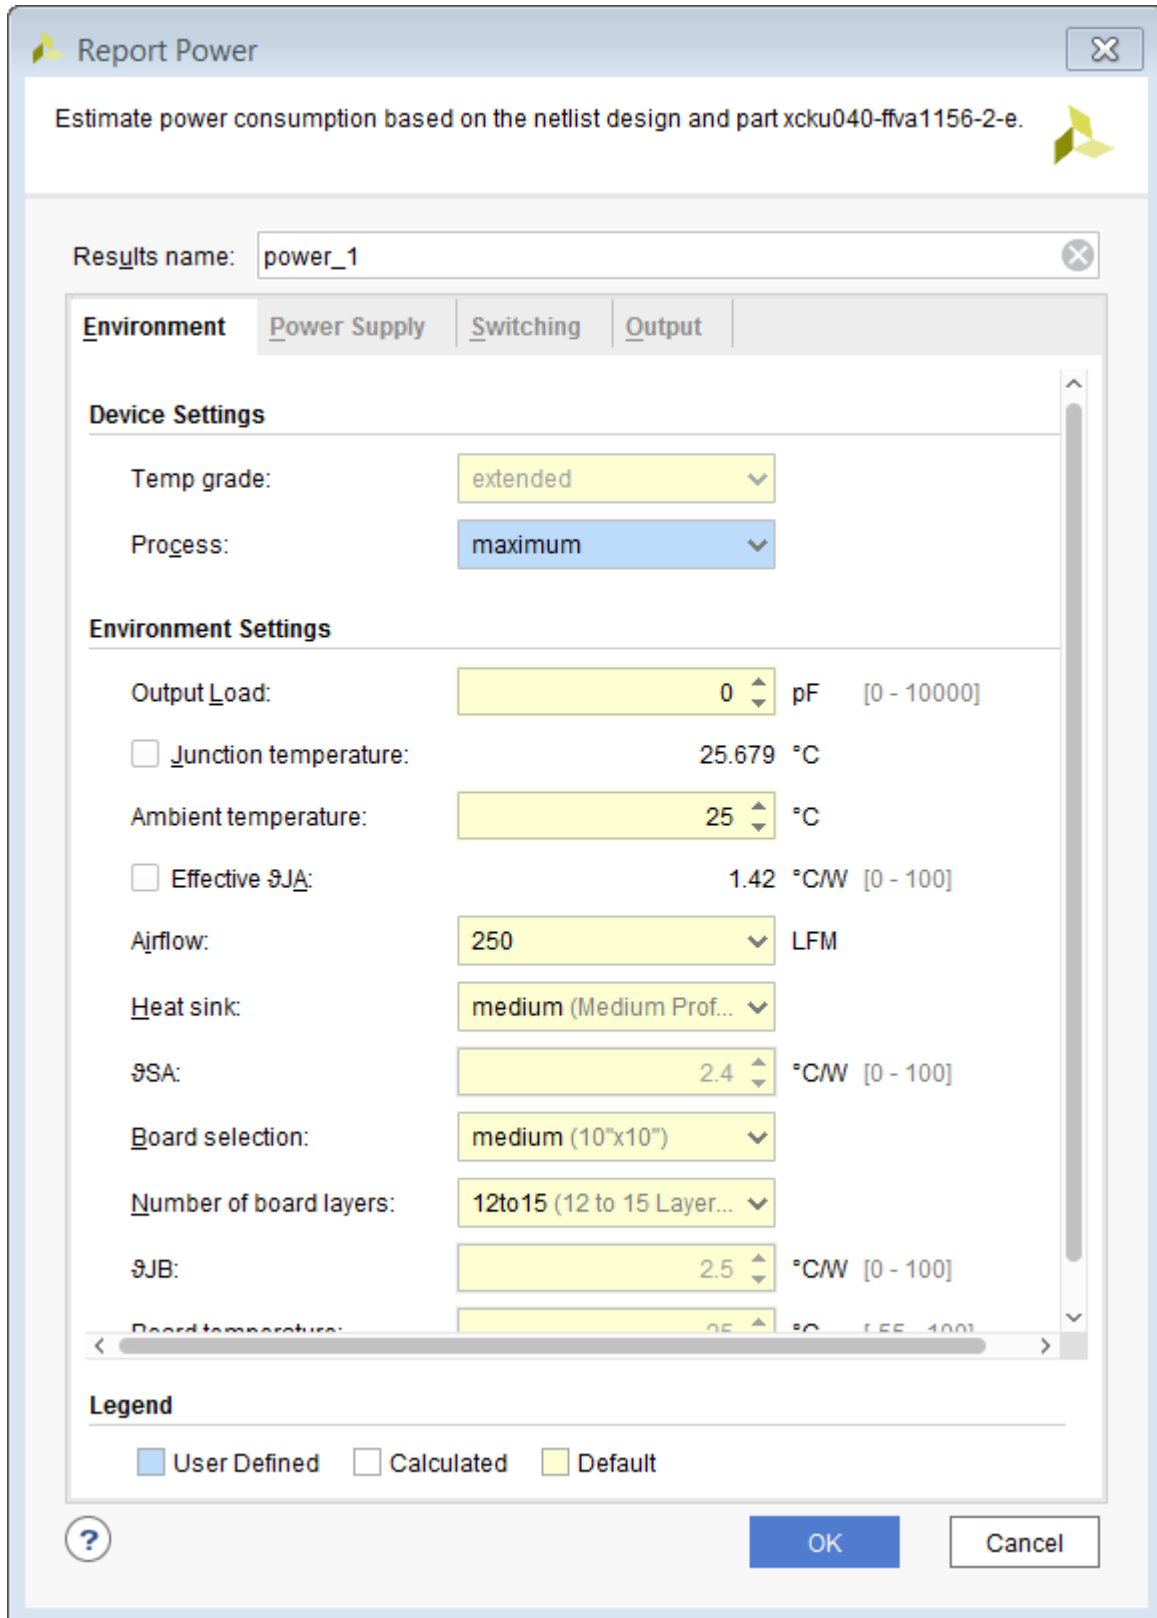

Figure 8: Report Power Dialog Box (Environment Tab)
2. Examine the **Environment** tab in the Report Power dialog box (Figure 8).